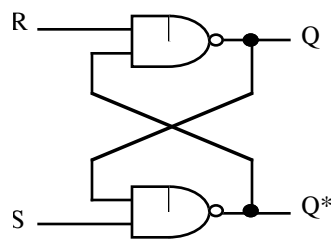

Figure 4. R-S Flip-flop
4. Using the gates on a 7400, build the circuit shown in Figure 4.
output (Q_{n+1}) is described in terms of R, S and the previous value of Q (called Q_n). DO NOT CONFUSE Q_{n+1} with the Q^* shown in Figure 4 — Q_{n+1} is the NEXT state (value) of the Q output of Figure 4. The actual operation of the R-S flip-flop can be more easily understood by a simple explanation. The R (also called the RESET) will always reset the Q output to zero (LOW) irregardless of the previous state of the output. The S (also called the SET) will always set the Q output to one (HIGH) irregardless of the previous state of the output. There will be no change in the Q output if both R and S inputs are zero (LOW). However, there is a problem if both R and S inputs are one (HIGH). Technically, you are trying to SET and RESET the output at the same time. As a result the output will be random and, consequently, undefined. During all of this time we are not concerned with the Q^* output of Figure 4 and, in fact, it does not really behave as the NOT of Q.